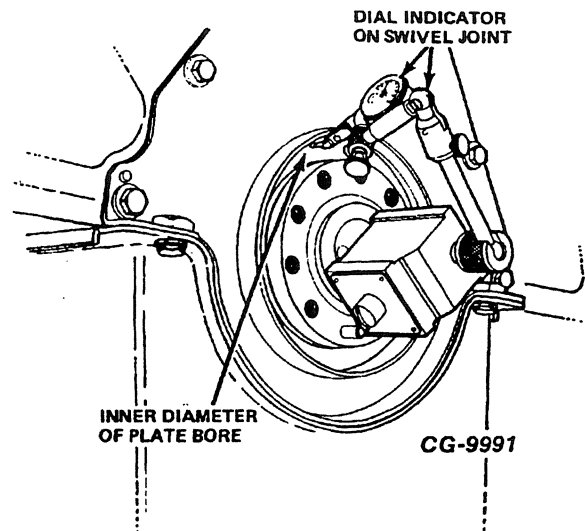

Figure 6.21. Measuring Rear Cover Bore
- Mount a dial indicator with a swivel joint onto the crankshaft flange and position the dial indicator probe against the I.D. of the seal bore in the rear cover. See Figure 6.21.
- Measure at four (4) equally spaced locations.